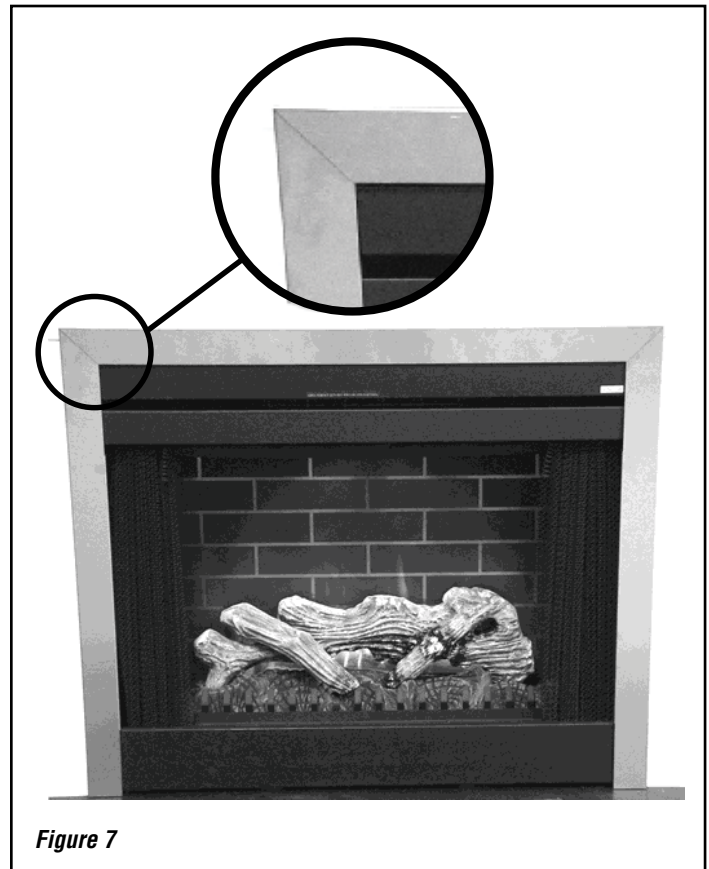

Figure 7
Step 8. Place the Top Trim Panel over the Side Trim Panels as shown in **Figure 7**.